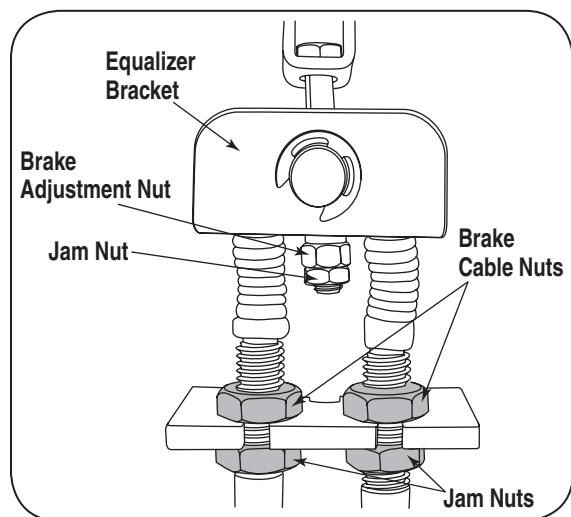

Figure 20
5. Check to see if the equalizer bracket is in a horizontal position. If not, loosen the jam nut and tighten or loosen brake adjustment nut until satisfactory brake performance is obtained and equalizer is level. See Figure 20.